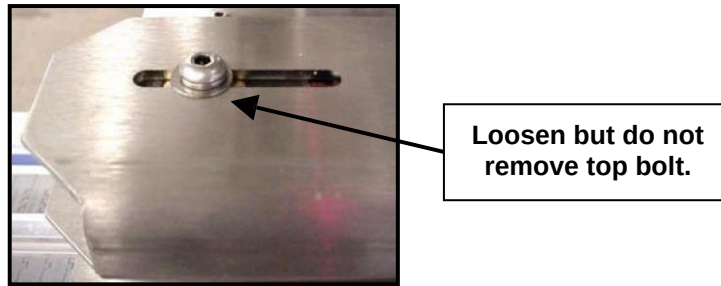

Figure 19. IDLER PULLEY TENSION BOLT.
- 1.** To remove the belts on the upper front and back gripper belt assemblies, perform Steps 2a through 2d below. Refer to Figures 19 and 20.
- 2a.** Loosen, but do not remove, the two idler pulley tension button head bolts. Refer to Figure 19.